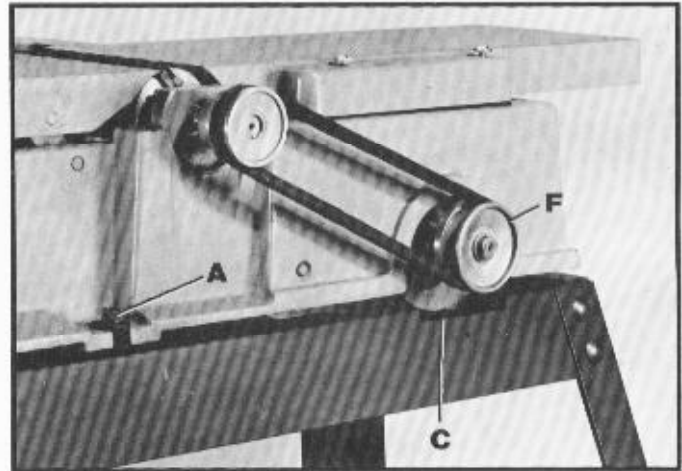

Fig. 4
1. Place the jointer on top of the stand, making certain the motor pulley (F) Fig. 4, is over the cut-out slot (C), in the side bracket of the stand.
2. Fasten the jointer to the stand using the three 1-1/4" long hex head cap screws, one of which is shown at (A) Fig. 4, flat washers, and hex nuts.